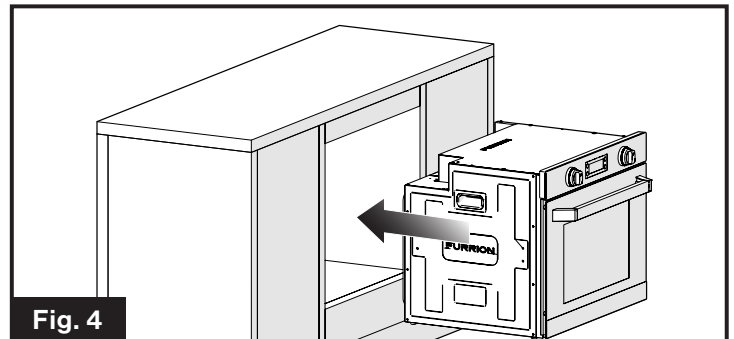

Fig. 4
- Slide the oven into the cabinet opening by grasping the two built in handles on each side of the oven. Do not use the handle on the door for lifting the oven. (Fig. 4)